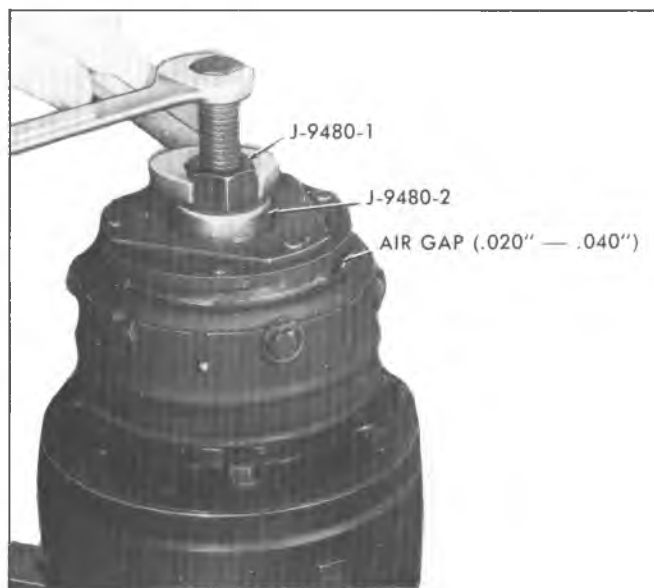

Fig. 73--Installing Clutch Plate and Hub Assembly
4. Place spacer bearing J-9480-2 on hub and insert end of clutch plate and hub assembly installer J-9480-1 through spacer J-9480-2 and thread tool onto end of compressor shaft (Fig. 73).